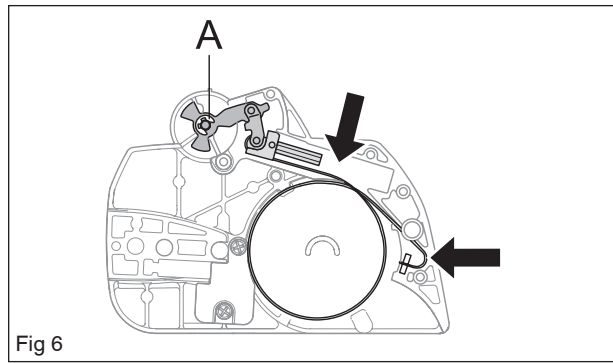

Fig 6
Bolt the elbow joint to the brake band (see figure 5) and tighten to a torque of 1–2 Nm. Locate the elbow joint and connected brake band in their recesses in the clutch cover. Lubricate the recess for the spring with grease (see figure 6).
Secure the circlip (A) (see figure 6).